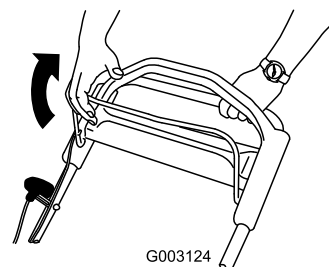

Figure 16
1. Pull the blade-control bar to the handle (Figure 16).